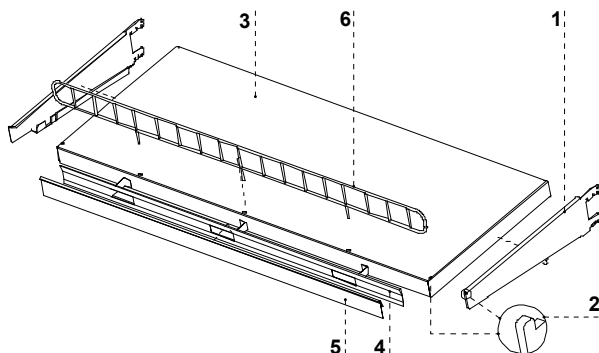
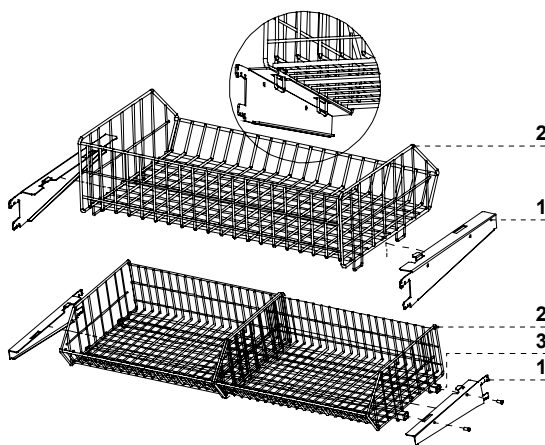

Fig.5 Rack shelf set
Fig.7 Fruit and vegetable baskets
2. Place shelves and/or baskets on hooks Fig.5 (p.16) and/or Fig.7 (p.16)